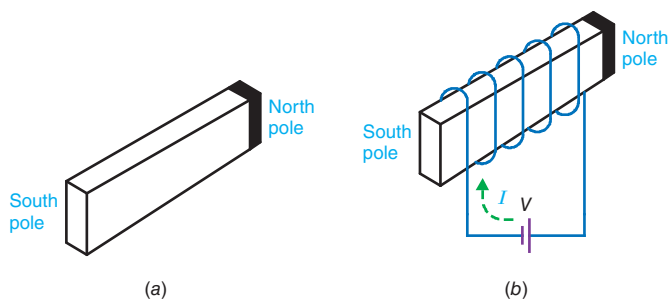

Figure 11-1 Poles of a magnet. (a) Permanent magnet (PM). (b) Electromagnet (EM) produced by current from a battery.
A magnetic field is produced by an object called a *magnet*. Magnets are made from metals like iron, iron alloys, and other materials generally known as ferromagnetic materials. They are formed into many different shapes depending on their use. A common form used primarily to explain the action of the magnet is a rectangular bar. The two ends of the bar are called the poles of the magnet. They are referred to as the north (N) and south (S) poles. Figure 11-1 shows two bar magnets, one a permanent magnet (PM) that is always producing a magnetic field and an electromagnet (EM) that produces a magnetic field when current flows through the coil of wire around it.
As shown in Figs. 11-1 and 11-2, the north and south poles of a magnet are the points of concentration of magnetic strength. The practical effects of this ferromagnetism result from the magnetic field of force between the two poles at opposite ends of the magnet. Although the magnetic field is invisible, evidence of its force can be seen when small